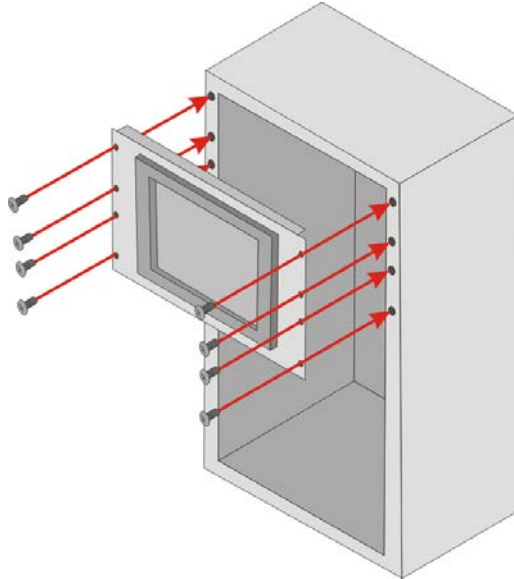

Figure 3-36: Install DM-F19A into a Rack/Cabinet
Step 3: Slide the LCD monitor with the attached rack/cabinet bracket into a rack or cabinet (**Figure 3-36**).